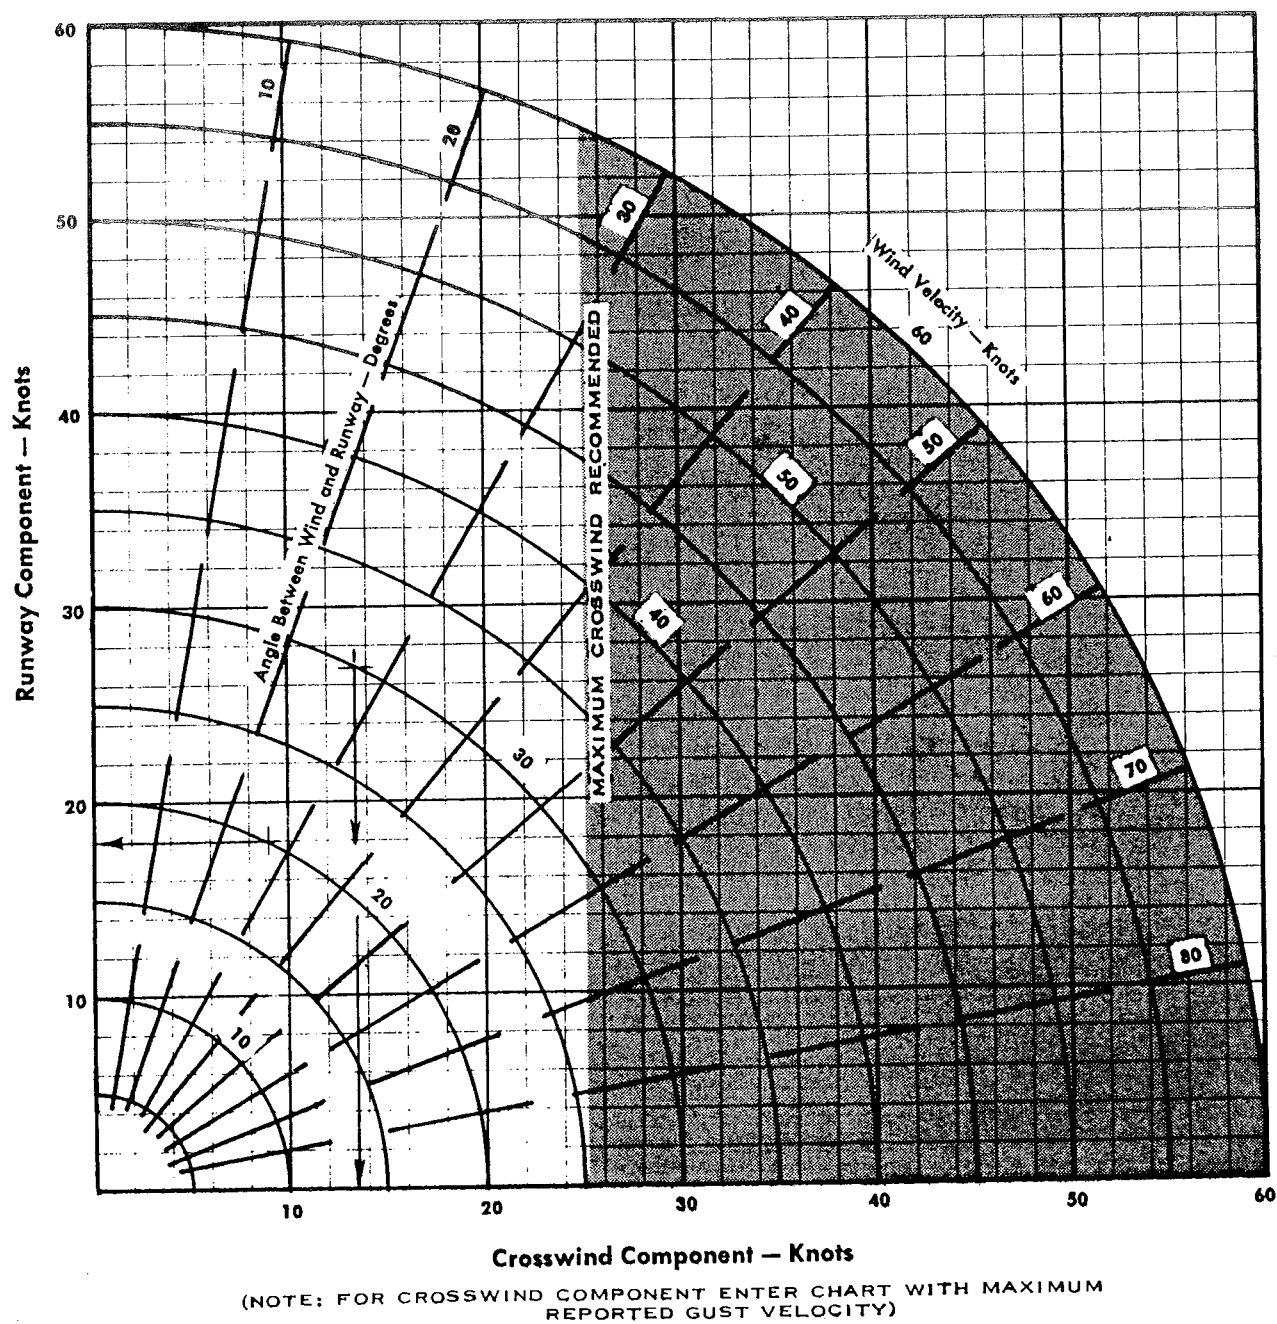

Figure A8-1
Figure A8-1 illustrates a means for converting wind velocity into runway and crosswind component speeds.
- From Figure A8-1 determine the crosswind component (using the maximum gust velocity) to be 13.5 knots (this is less than the maximum recommended component of 25 knots).